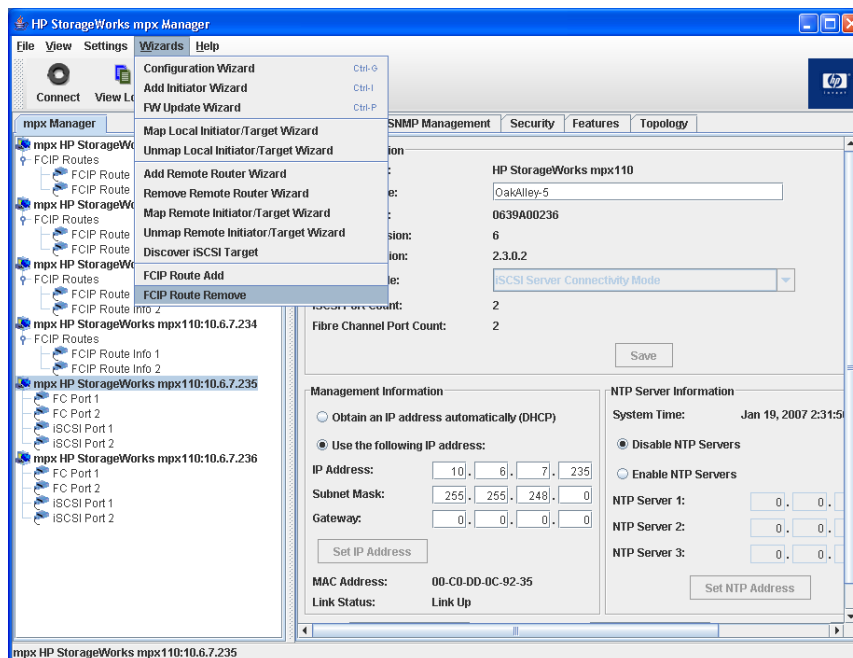

Figure 11 FCIP Route Add Wizard
4. Select the pull down Wizard menu to run the FCIP Route Add Wizard, see Figure 11.